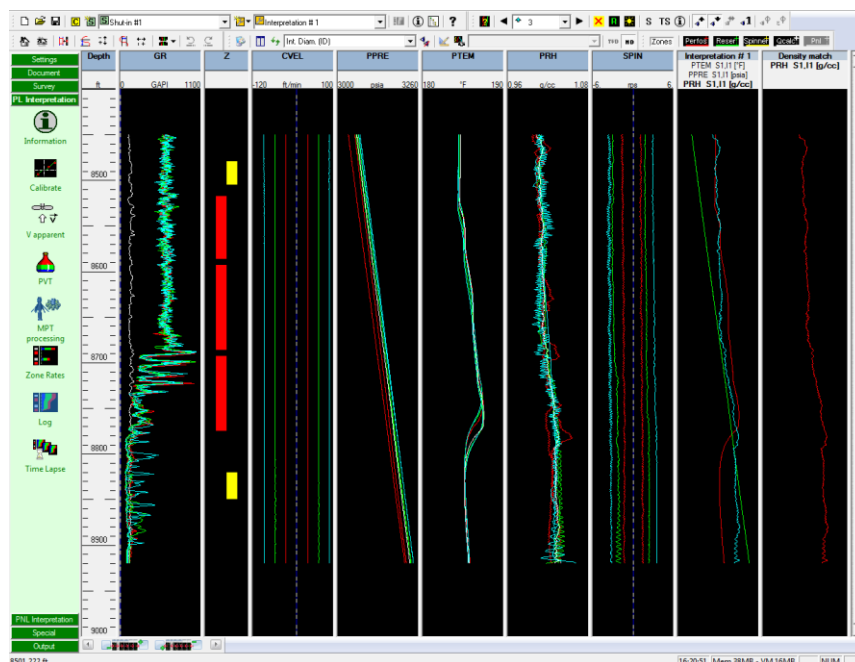

Fig. B02.10 • Two calibration zones defined
- Use the Spinner Calibration zone option  of the zone toolbar to define one zone above the top perfo and one below the deepest (Fig.B02.10).